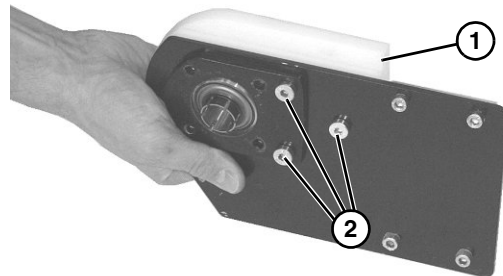

Figure 46
14. Check drive terminal assembly (**Figure 46, item 1**) for wear. If worn, remove three low head cap screws (**Figure 46, item 2**) and replace.